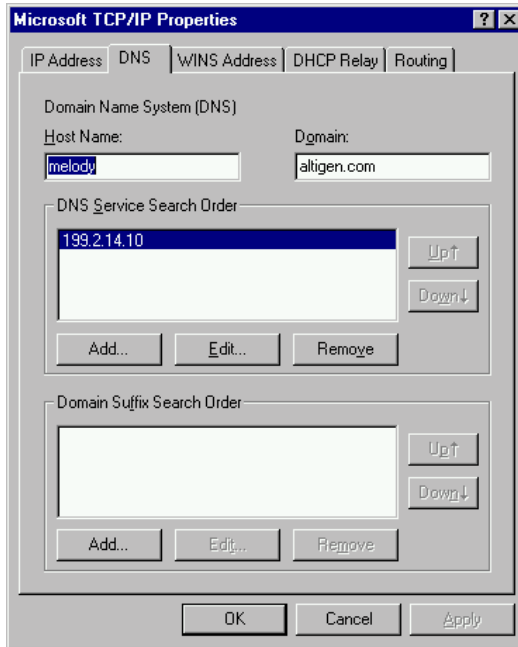

Figure 3. DNS Configuration window
3. Select the **DNS** tab at the top of the TCP/IP Properties window (see Figure 3) to configure **Domain Name System**.
2. On the **DNS** tab of TCP/IP Properties, enter the following (see Figure 3):